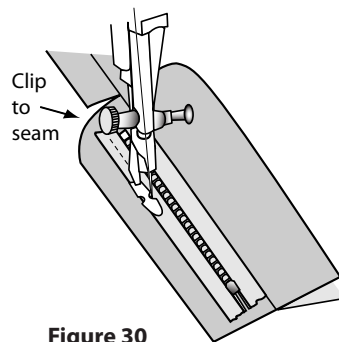

Figure 30
2. Clip seam allowance to seam line on underlap side only. Position zipper face down with edge of tape even with seam line and zipper stop even with the back tacking. Machine stitch close to zipper coil through fly extension only. (Figure 30)